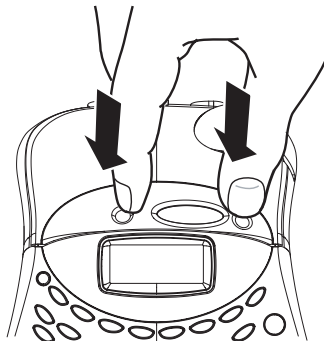

Figure 3
1. Press and release the tape cassette cover to open the tape compartment. See Figure 3